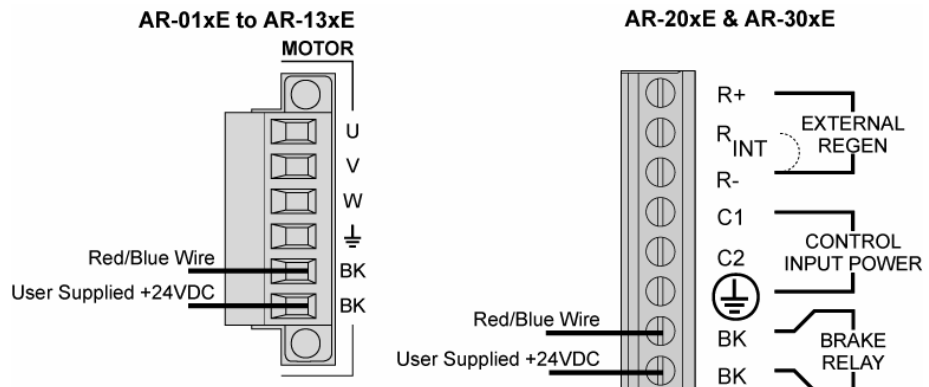

Figure 22 Typical Brake Relay Connection
**Note:** On models AR-20xE and AR-30xE, the Motor Brake Relay is on a separate connector. See Figure 22 on page 50.